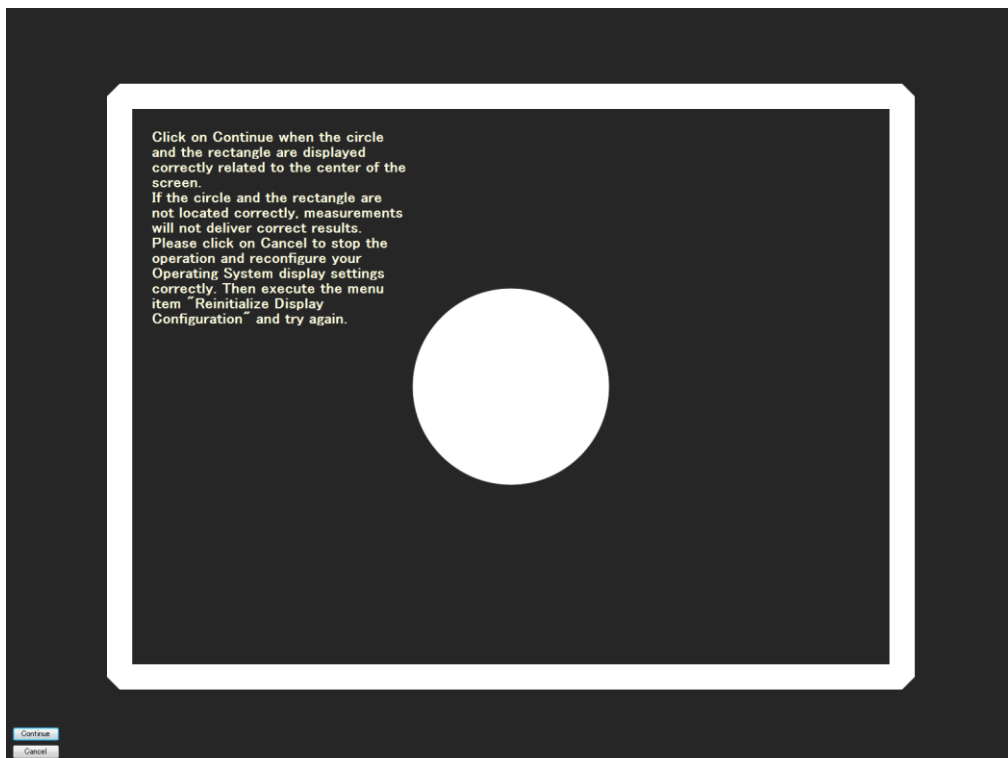

Figure 5: Continue Operation dialog
If the main screen setting is correctly done, **Sensor Contact Position Guide** (Figure 57) will be shown before calibration or taking other measurements starts. If QA Test starts, the following message (Figure 5) will be shown before calibration or taking other measurements starts.
- Unlike other sensors, retractable sensor executes calibration automatically when connected to the system. As long as PIP MODE main screen setting is correctly done, calibration will be completed properly without showing **Sensor Contact Position Guide (Figure 57)** or **Continue Operation dialog (Figure 5)**. If the screen is not correctly set, calibration will stop with an error message. Please set up PIP MODE correctly again and re-execute the calibration.
- If the buttons of the **Sensor Contact Position Guide (Figure 57)** or **Continue Operation dialog (Figure 5)** are not shown, push the ESC key to cancel the operation.
- Executing QA Test with PIP MODE equipped displays will always show **Continue Operation dialog (Figure 5)** regardless of PIP MODE setting (ON/OFF). If the screen configuration is correct, press "Continue" to continue your operation.